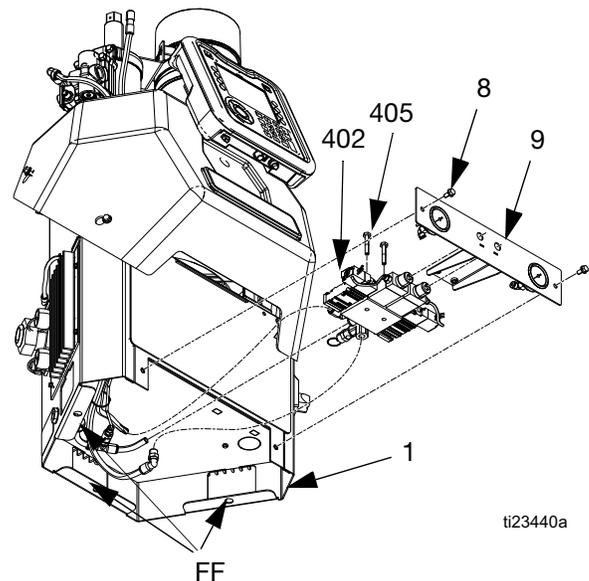
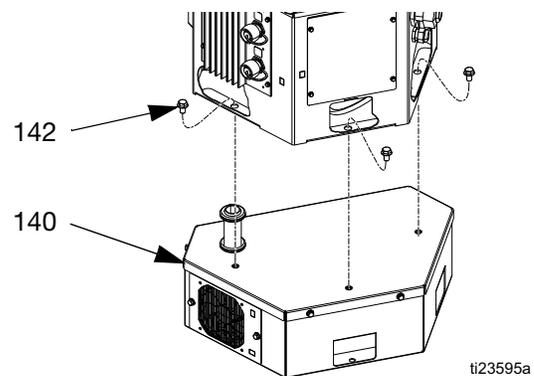

FIG. 50
FIG. 51
Disassembly (see FIG. 50):
4. Remove front access panel (10) from electrical enclosure (1).
5. Remove the transformer assembly; for 480V systems only (see FIG. 51):
- b. Remove three screws (142) and InvisiPac system off of transformer assembly (140).
6. Use 3/8 in. socket to remove two screws (8).
8. Insert hands through access holes (FF), see FIG. 50, in bottom of electrical enclosure then disconnect air lines from air control solenoids (402).
10. Remove two screws (405) securing solenoids (402) to air control assembly (9) then remove air control solenoids.
Reassembly (see FIG. 50):
1. Use two screws (405) to secure new solenoids (402) to air control assembly (409).
3. Insert hands through access holes (FF), see FIG. 50, in bottom of electrical enclosure then connect air lines to air control solenoids (402).
4. Slide air control assembly (9) into place then use two screws (8) to secure to electrical enclosure (1).